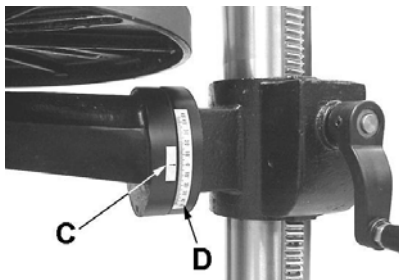

Figure 15
1. Loosen the *socket head set screw* (A) with a 3mm hex wrench.
2. Using a 15/16" wrench, loosen the *hex cap screw* (B), and tilt the table to the desired angle by aligning the *arrow* (C, Fig. 15) on the rotating part of the bracket to the desired angle (in degrees) displayed on the *scale* (D, Fig 15) at the base of the bracket.
3. Tighten the *hex cap screw* (B).
4. Tighten the *socket head set screw* (A).